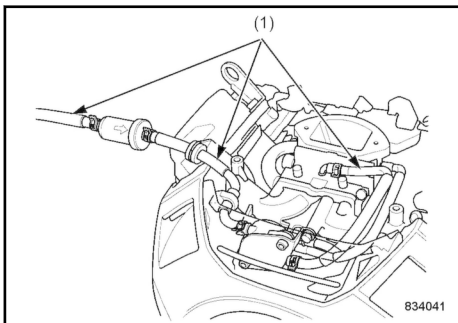

Fig. 179
1. Check the condition and tight fit of all fuel lines (1) ↪ Fig. 179 and hose clamps.